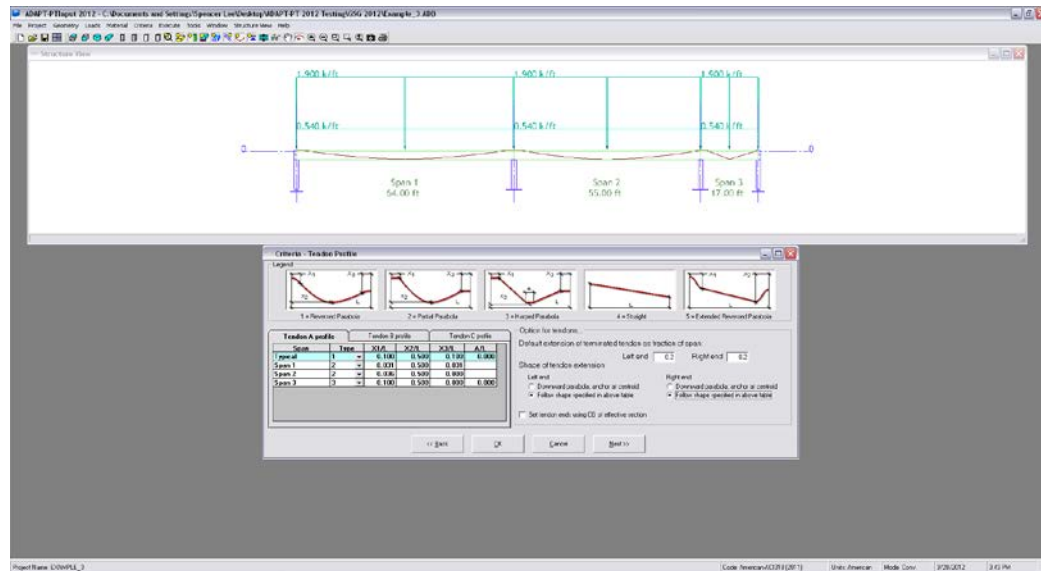

FIGURE 4.2-17
4.2.5.4 Specify The Tendon Profiles (Fig. 4.2-17)